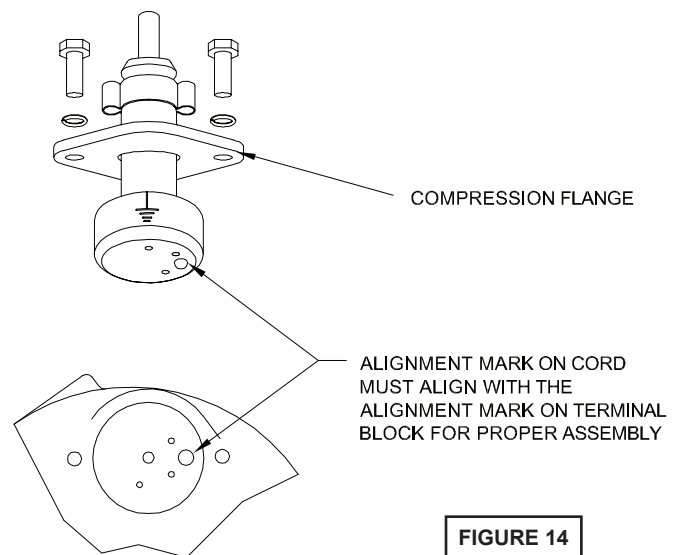

**FIGURE 13**
Check power cables (16) and control cable (56, if used), for cracks or damage and replace if required (see Figure 12). Make internal wiring connections which are independent of the terminal block as shown, using connectors (48) and wire assemblies (49) as required. Do not use wire nuts. Slip motor leads and ground wire through fiberglass sleeve. Lower motor housing (6) down onto seal plate (5) while aligning holes and stringing motor leads through the cable entry bore(s). (Slipping cords inside a 1 ft. length of .5" conduit makes this easier). Place socket head cap screws (47) through seal plate (5) into motor housing (6) and torque to 60 in-lbs. Reconnect motor and optional control leads to the underside of the terminal block(s) (21), (54 optional) as shown in Figure 13. Note that the pins are numbered underneath the terminal block. Place o-ring (20) into groove in terminal block and lubricate with dielectric oil. Press the terminal block (21) into the housing so it seats completely below the snap ring groove. Place snap ring (19) into groove in cable entry bore of housing. Repeat terminal block installation for control cable, if equipped.